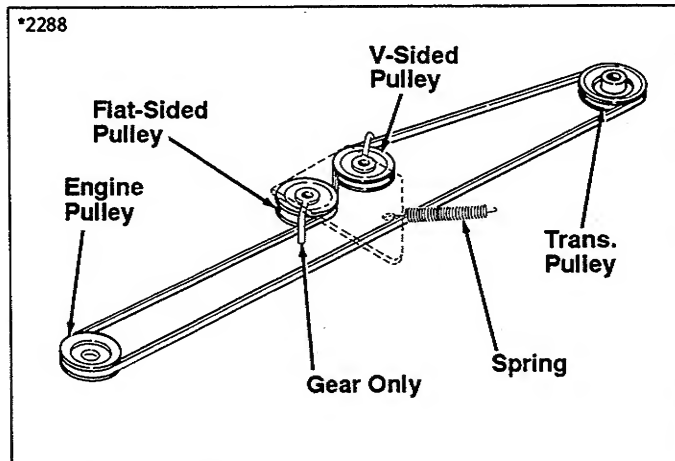

Figure 27. Drive Belt
8. Lock parking brake (hydro models) or clutch pedal (gear models) to position idler pulley bracket. Install new belt to idler pulleys. Make sure belt is properly routed on flat and V-sided pulleys. Refer to figure 27. Adjust belt stops to 1/8" clearance from pulleys.